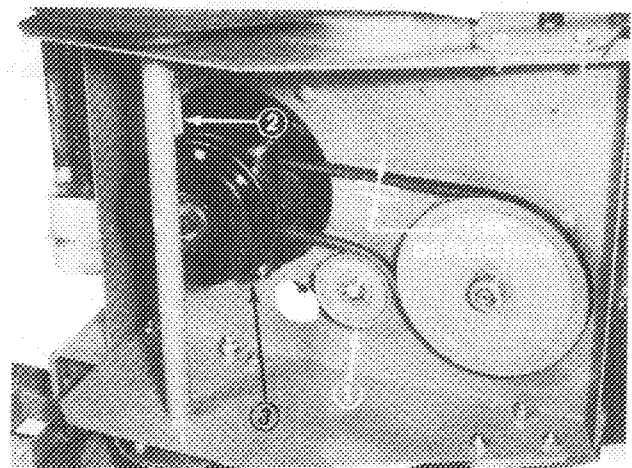

Figure 21
1. Loosen capscrew and flange locknut securing idler pulley to frame (Fig. 21). Slide pulley outward relieving belt tension.
3. Remove left front engine mounting bolt securing clutch retainer to frame (Fig. 21). Unhook retainer from clutch and remove retainer.
4. Remove belt from drive pulley and clutch (Fig. 21).
8. Position and secure idler pulley to frame so belt deflection is no more than 1 1/64" when 5–1/2 lb of force is applied to mid span of long leg of belt (Fig. 21).
1. To adjust clutch, tighten or loosen locknuts on flange studs (Fig. 21).